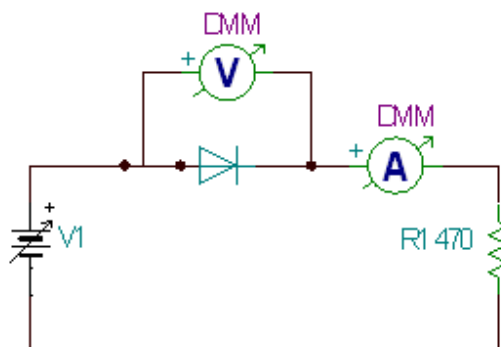
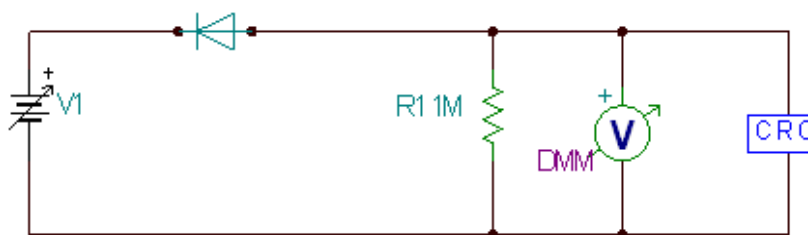

Fig 1.1 Forward Bias circuit
Fig 1.2 Reverse Bias circuit
5. Connect the Circuit in Fig1.1
9. Connect the circuit as in fig 1.2
3. Can we use 1M Ω in fig 1.1 and 470 Ω in fig 1.2 and perform the experiment? If not, why?